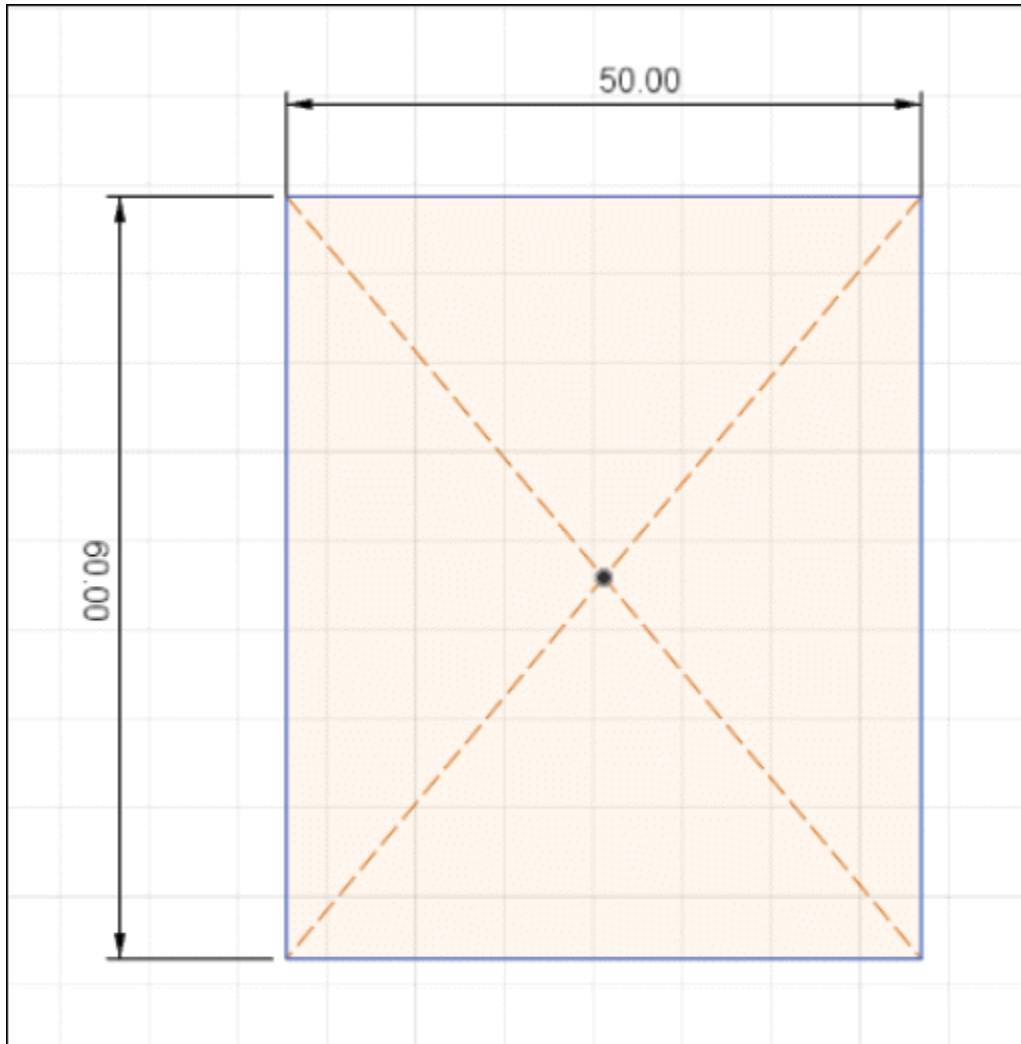

Figure-10. Sketch After Creating Rectangle
- Click on the origin to specify the centre point of rectangle and specify **60** and **50** in floating window as dimensions of rectangle; refer to Figure-10. Press **TAB** to toggle between edit boxes.